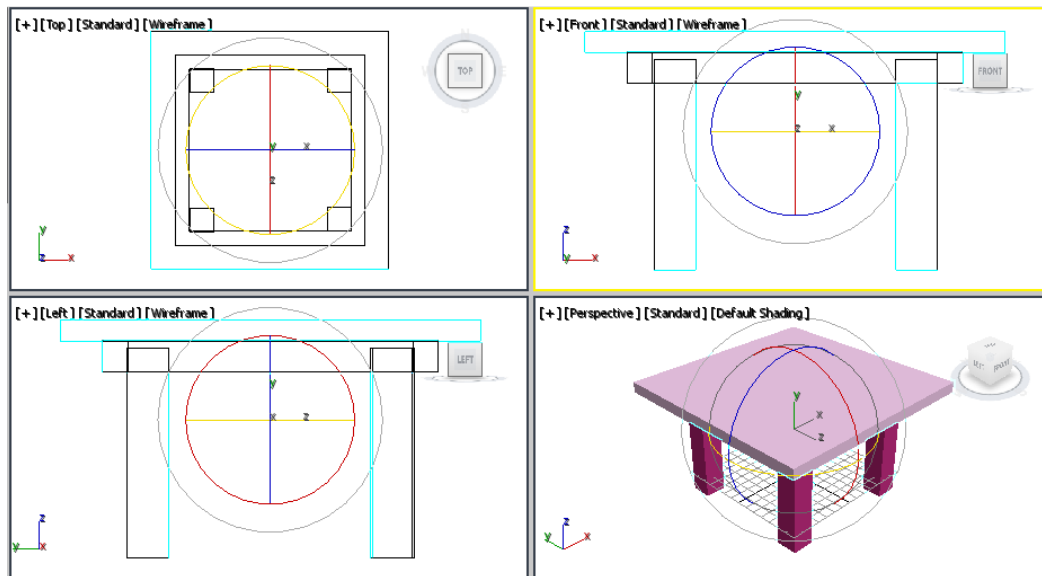

Figure 5-8 Table rotated upright to stand on its legs
3. Right-click on the **Select and Rotate** tool in the **Main Toolbar**; the **Rotate Transform Type-In** dialog box is displayed. Set the value **180** in the **Z** spinner in the **Offset:Screen** area of this dialog box and then press the ENTER key; *Table* is rotated in upright position, as shown in Figure 5-8. Next, close this dialog box.
4. Invoke the **Zoom Extents All** tool from viewport navigation controls; *Table* is zoomed to its extents in all four viewports, refer to Figure 5-8.